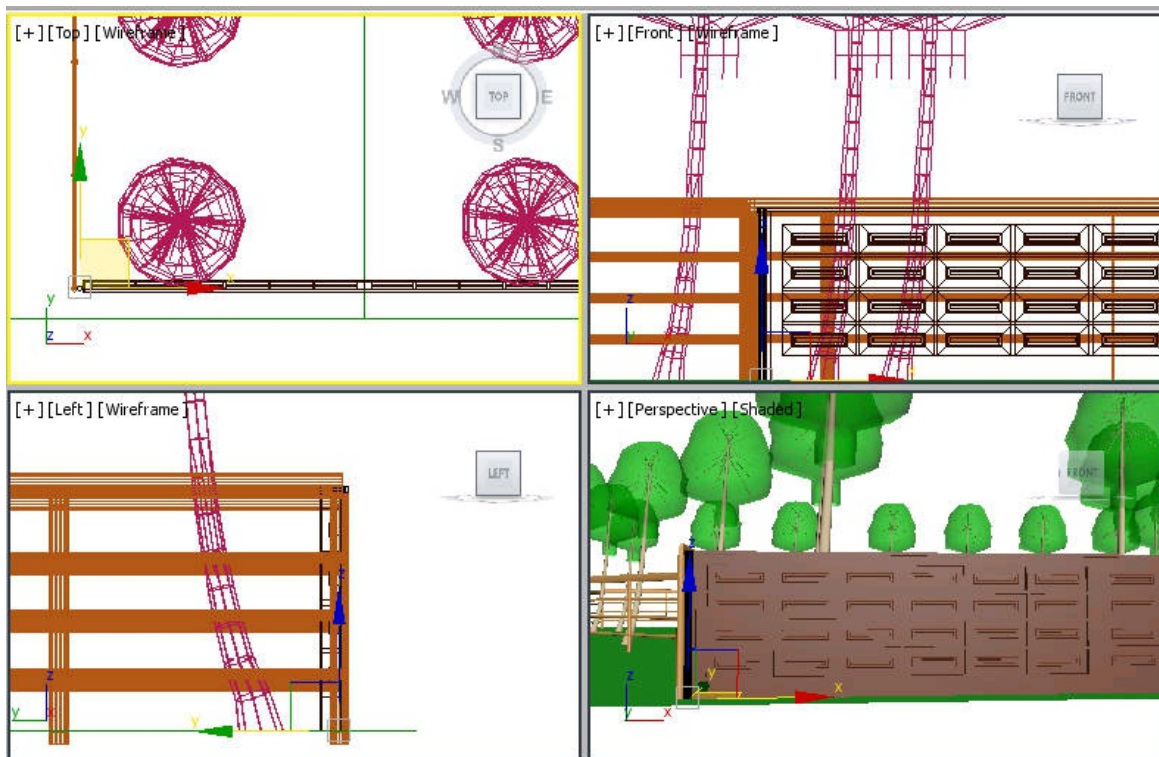

Figure 4-66 The rod1 geometry aligned in viewports
13. Align *rod1* in the viewports, as shown in Figure 4-66.